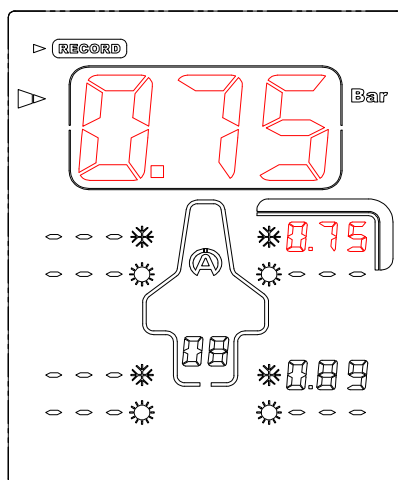

Figure 4
- 4) Press the central button  to record the measured pressure, then, the point of capture displayed to the screen moves automatically following the sequence programmed in the menu SETUP. In the example (*figure 4*), the device positions itself on the right front tyre.
- 5) Apply the mouthpiece of the Tyrecontrol on the valve of the tyre (*figure 4*).